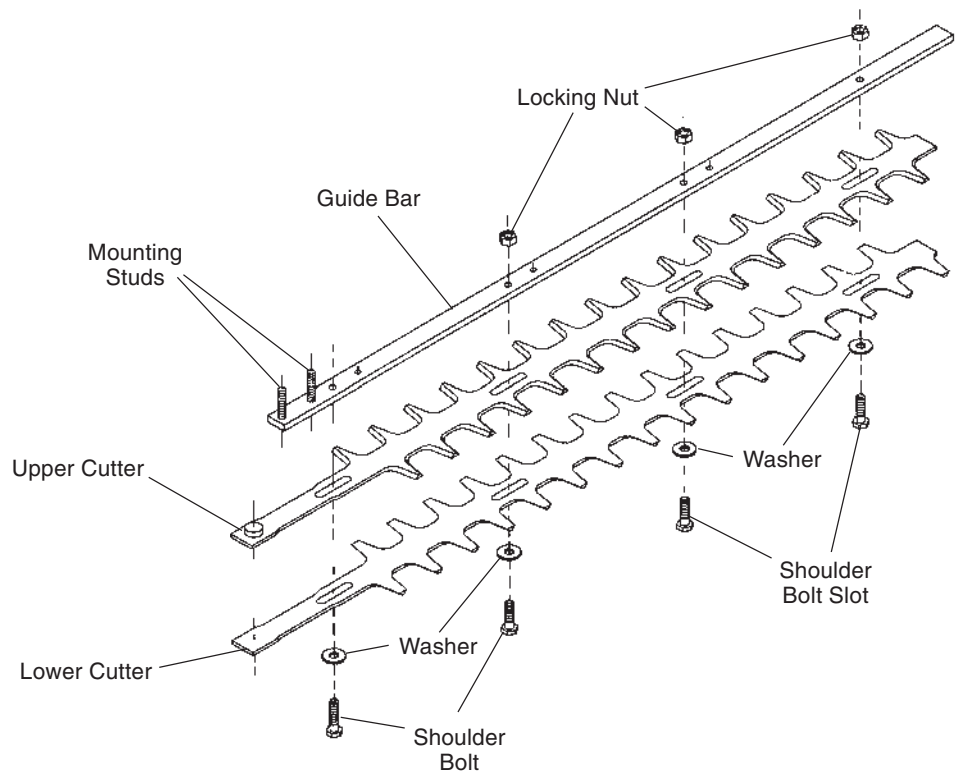

Figure 32. DH230 Cutters and Guide Bar
Removing the Cutters (Figure 32)
STEP 2. Unscrew all shoulder bolts from the guide bar, and remove the single flat washer from beneath each shoulder bolt head (Figure 32).